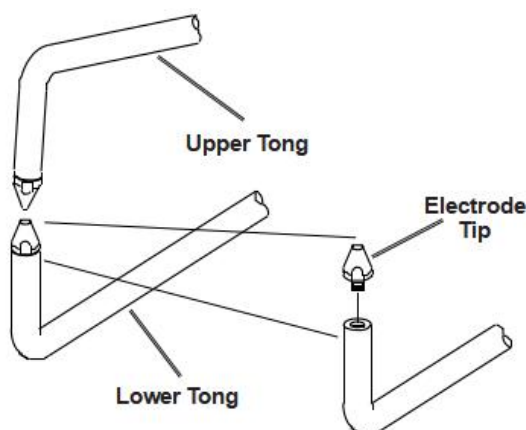

Figure 3-9
- 3.To attach new Electrode Tips to the Upper and Lower Tongs, coat Tip threads with heat sink compound (not included) and screw the Tips onto the Tongs as shown in Figure 3-9. Do not overtighten.